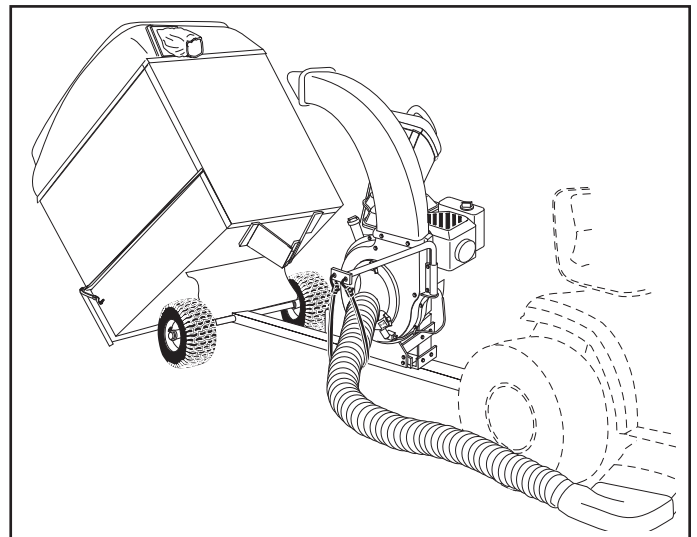

FIGURE 31
9. Release the latch holding cart down to the tongue by pulling up on the latch lever. See figure 31.